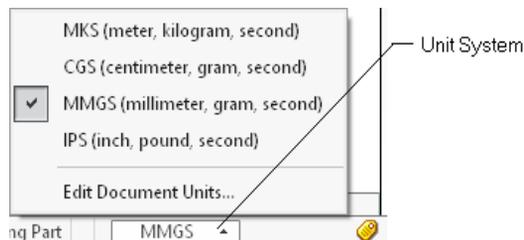

Figure 2-14 The flyout showing the currently selected unit system
*In SOLIDWORKS, you can also change the units for the current document by using the **Unit system** that is located towards right in the Status Bar; refer to Figure 2-11. To do so, click on the **Unit system**; a flyout will be displayed with a tick mark on the left of the activated unit system, refer to Figure 2-14. Now, you can select the required unit system for the activated unit system from this flyout. You can also invoke the **Document Properties-Units** dialog box by selecting the **Edit Document Units** from this flyout.*